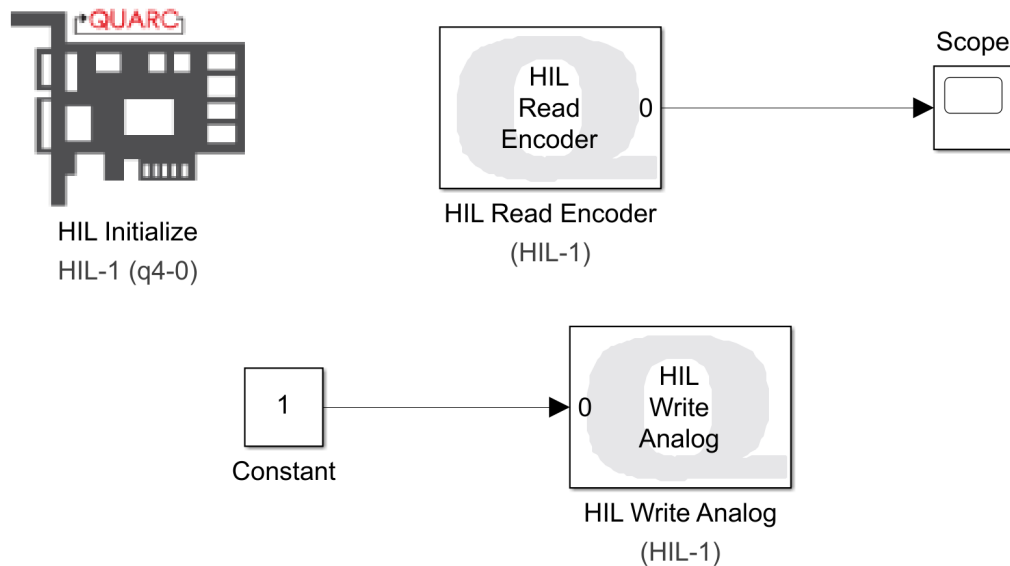

Figure 8: Simple Model
8. Connect these blocks as depicted in Figure 8. In this example, we place a simple constant output and a display for the encoder. *For the purposes of this example, do not output more than ± 2.5 volts to the cart to prevent uncontrolled motion.*